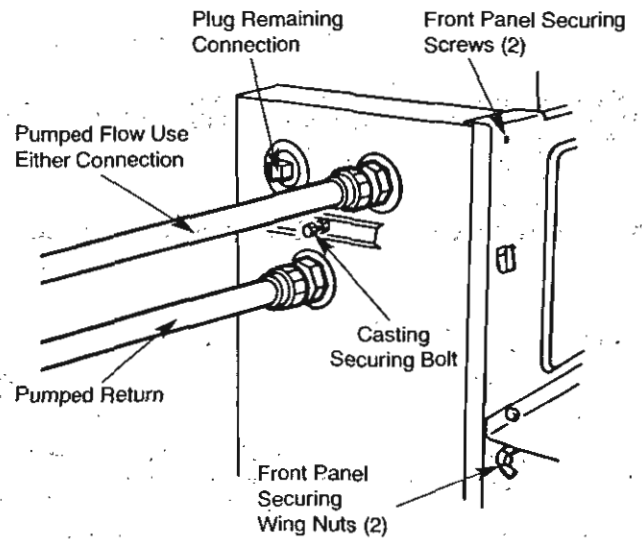

Fig. 6. Fully Pumped System
- Remove the front panel (Fig. 6). Transfer the thermostat pocket blanking disc to the right hand hole.
- Remove the casting securing bolt at the left hand side (Fig. 6).
The flow and return connections to the boiler to be as follows (Fig.6):